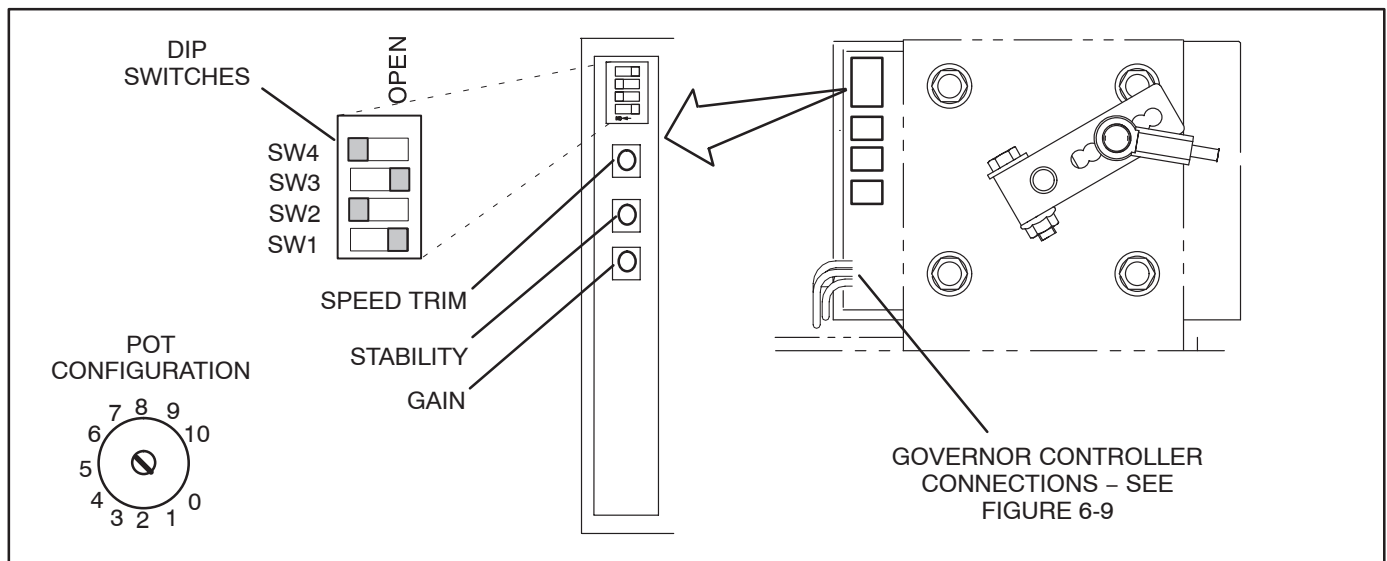

FIGURE 6-2. GOVERNOR CONTROLLER
3. Set length of rod approximately two turns longer than center to center distance between rod end holes in levers. Rod length shown in Figure 6-2 is approximate.